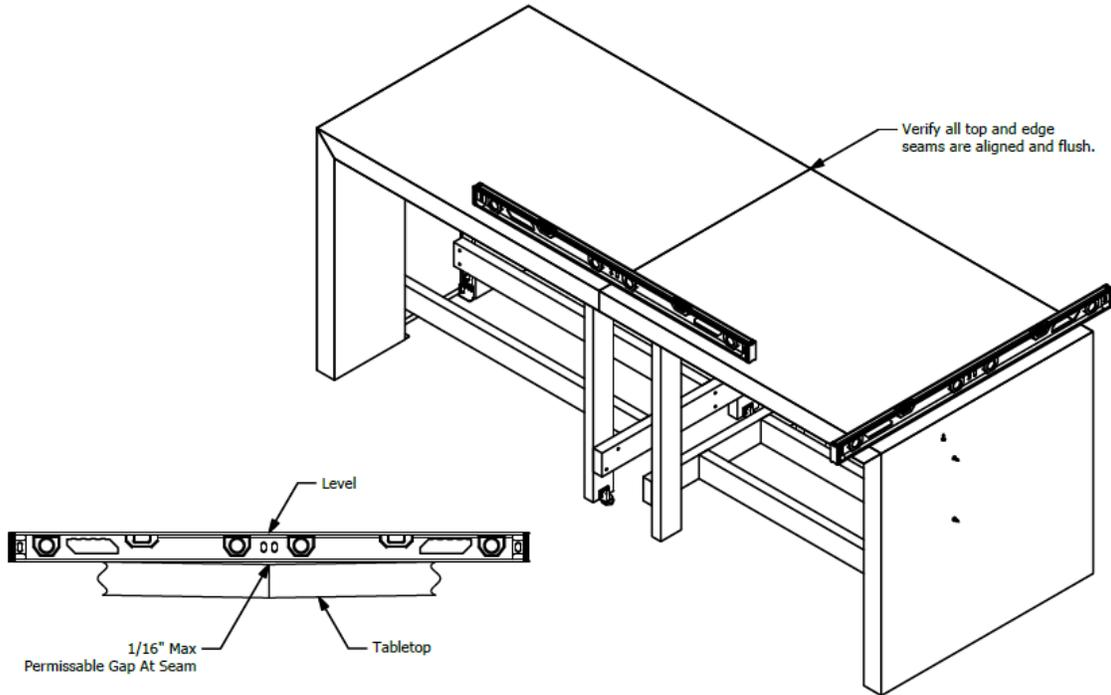

Fig. 04: Table Pre-Leveling
- 2.1.4 Use a level to measure and adjust levelers on Ends and Shipping Frames to level the table while continually verifying that the edges and top remained aligned. If necessary, make further adjustments to the Zip-Bolts and/or Stiffeners during the leveling process. [Fig. 04]